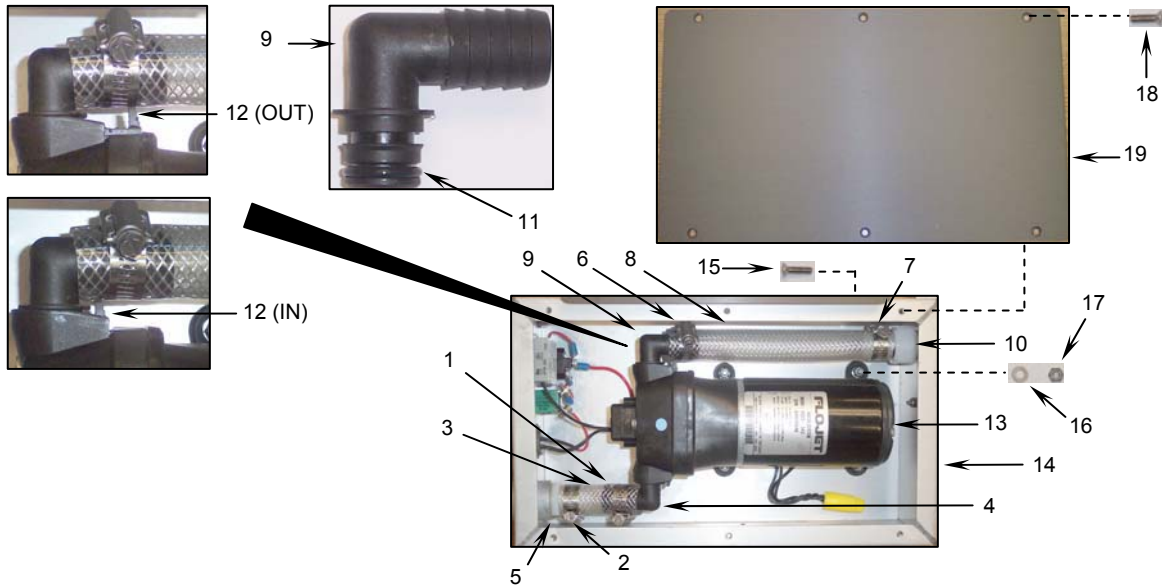

Figure 4. Installing the Sink Fill Pump Assembly Internal Tubing.
- c. Slide two hose clamps (**Figure 4, Item 1**) and (**Figure 4, Item 2**) over the shorter tubing (**Figure 4, Item 3**).
- d. Push one end of the shorter tubing (**Figure 4, Item 3**) onto the discharge elbow (**Figure 4, Item 4**) and the other end onto the outlet adapter (**Figure 4, Item 5**).
- e. Slide two hose clamps (**Figure 4, Item 6**) and (**Figure 4, Item 7**) over the longer tubing (**Figure 4, Item 8**).
- f. Push one end of the longer tubing (**Figure 4, Item 8**) onto the suction elbow (**Figure 4, Item 9**) and the other end onto the inlet adapter (**Figure 4, Item 10**).
- g. Ensure that an O-ring (**Figure 4, Item 11**) is in place on the suction elbow (**Figure 4, Item 9**) and that the pump suction elbow retaining tab (**Figure 4, Item 12**) is pulled out, then insert the pump suction elbow into the pump (**Figure 4, Item 13**). Push the retaining tab in all the way.
- h. Ensure that an O-ring (**Figure 4, Item 11**) is in place on the discharge elbow (**Figure 4, Item 4**) and that the pump discharge elbow retaining tab (**Figure 4, Item 12**) is pulled out, then insert the pump discharge elbow into the pump (**Figure 4, Item 13**). Push the retaining tab all the way in.
- i. Position the pump (**Figure 4, Item 13**) in the enclosure (**Figure 4, Item 14**) and secure with the four flat head machine screws (**Figure 4, Item 15**), four flat washers (**Figure 4, Item 16**), and four self-locking nuts (**Figure 4, Item 17**).
- j. Position and tighten all four hose clamps (**Figure 4, Item 1**), (**Figure 4, Item 2**), (**Figure 4, Item 6**), and (**Figure 4, Item 7**).
- k. Apply sealing compound to the six flat head machine screws (**Figure 4, Item 18**). Secure the fill pump cover (**Figure 4, Item 19**) to the sink fill pump assembly enclosure (**Figure 4, Item 14**) using the six screws.